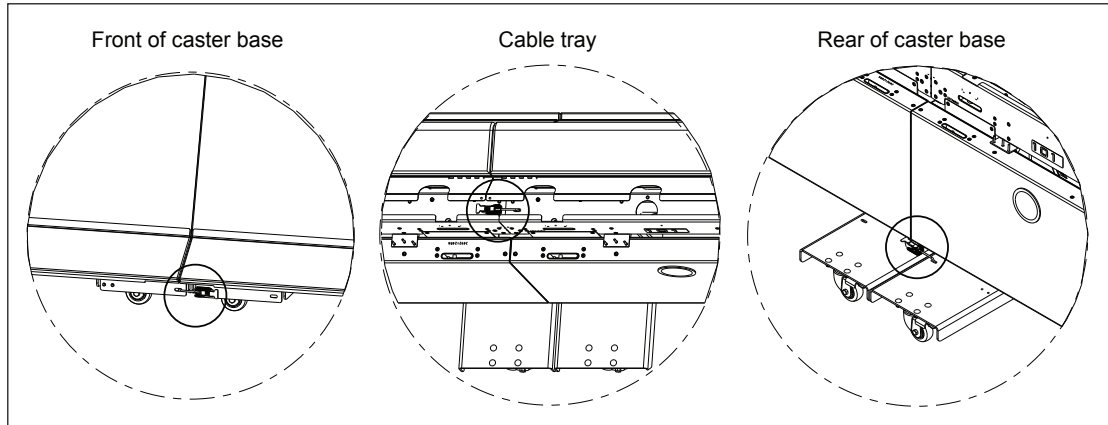

Figure 8: Latching Sections Together
4. Latch all three latches on the left table to the right table (as viewed from the rear). Refer to **Figure 8** for illustrations of each latch properly connected.